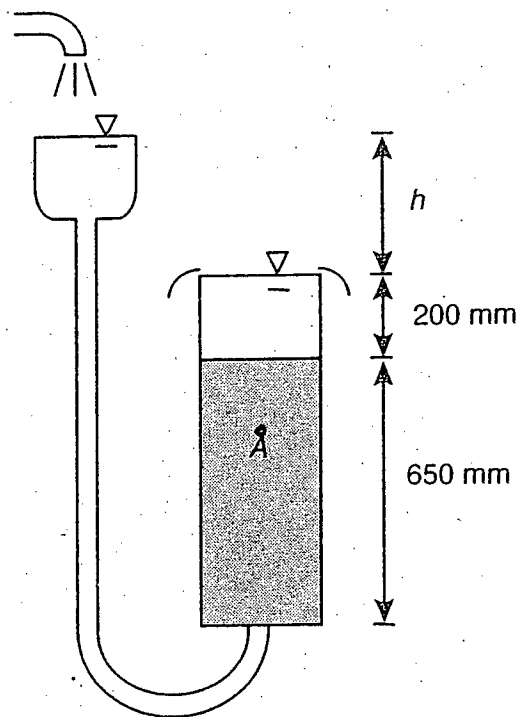

Fig. 3
(b) Water flows through a 100 mm diameter granular soil specimen as shown in **Fig. 3**. The water levels on both sides are maintained constant during the test, and the void ratio of the soil is 0.82, and  $G_s = 2.68$ . (15)